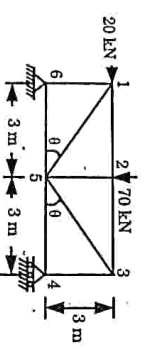

Fig. 2.10.1.
- From Fig. 2.10.1,  $\theta = \tan^{-1}(3/3) = 45^\circ$